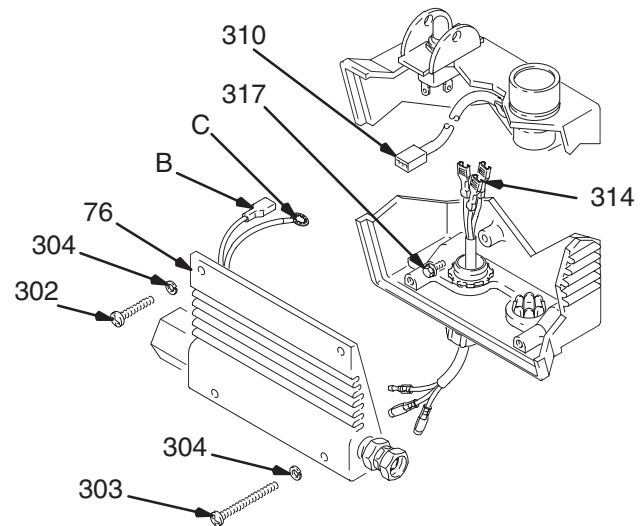

Fig. 22
3. Remove the four mounting screws and washers (302, 303, 304) from the pressure control cover (76). See Fig. 22.
4. Carefully remove the pressure control cover (76) so as not to stress the cables.
5. Disconnect the black and white wires of the pressure control cable (314) from the pressure control cover.
6. Disconnect the potentiometer cable assembly (310) from the pressure control cover.
7. Disconnect the red power lead (B) from the ON/OFF switch.
8. Loosen the ground terminal screw (317) and disconnect the ground lead (C).